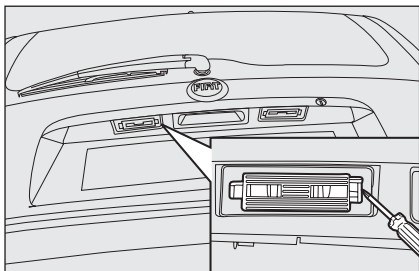

fig. 35
- use a screwdriver to remove the retaining spring as shown in **fig. 35**;